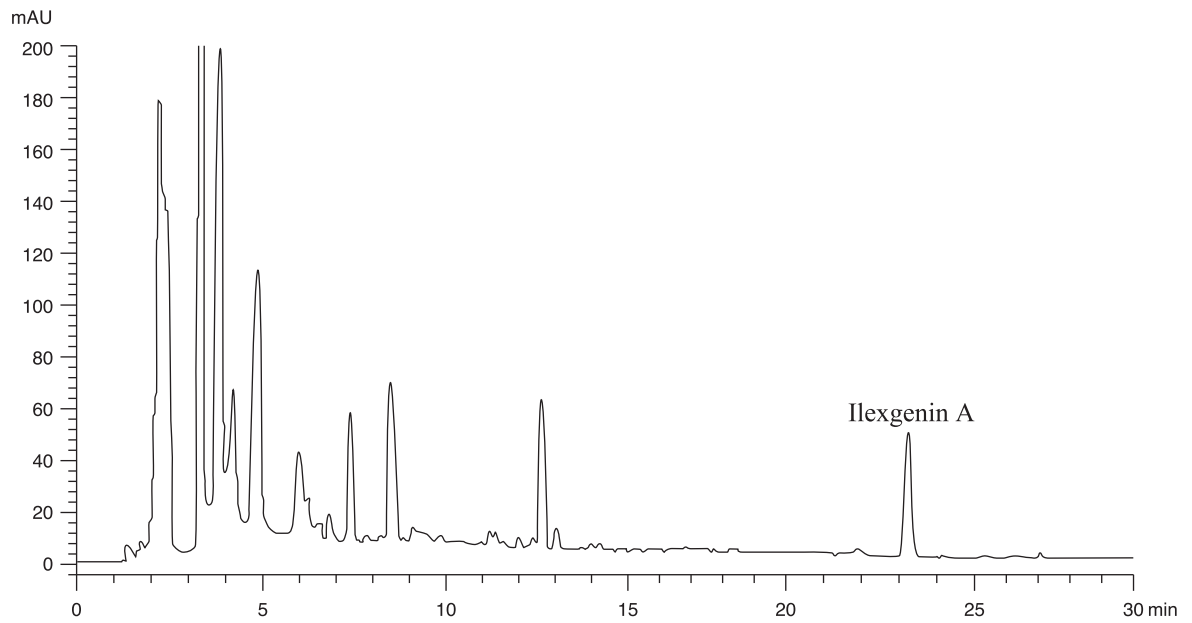

Figure 7 A reference assay chromatogram of *Ilicis Pubescentis Radix et Caulis* extract
The *R* value between ilexgenin A peak and the closest peak in the chromatogram of the test solution should not be less than 1.5 (Fig. 7).
Inject 10 μL of the test solution into the HPLC system and record the chromatogram. Identify ilexgenin A peak (Fig. 7) in the chromatogram of the test solution by comparing its retention time with that in the chromatogram of ilexgenin A Std-AS. The retention times of ilexgenin A peaks from the two chromatograms should not differ by more than 5.0%. Measure the peak area and calculate the concentration (in milligram per litre) of ilexgenin A in the test solution, and calculate the percentage content of ilexgenin A in the sample by using the equations as indicated in Appendix IV (B).